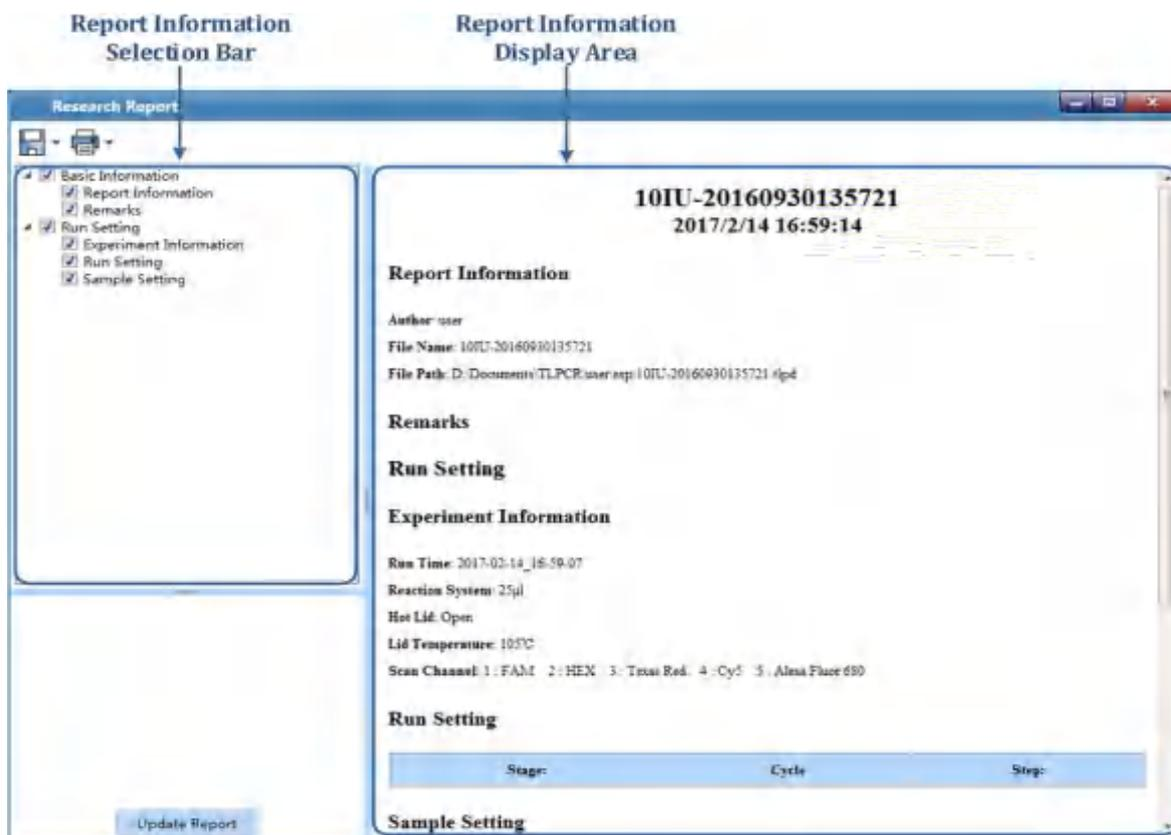

Figure D-2.4 Research Report interface - Research Report
3. **Research Report:** Click **Research Report** option in **Tool** submenu and the application software will automatically pop up the research report interface, as shown in figure D-2.4.